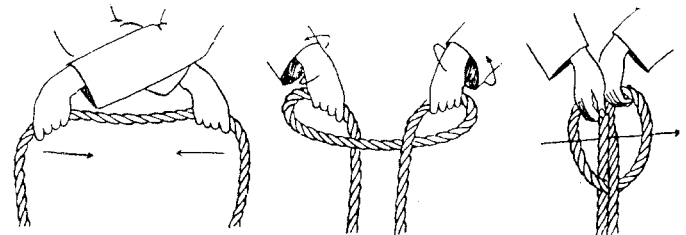

Figure 29. Farmer's clove hitch
3. **CLOVE HITCH - FARMER'S METHOD.** This method of making the clove hitch is the most practicable and the one most commonly used. Crossing the arms, the left in front of the right, grasp the rope as indicated on the left in Figure 29. Without twisting the rope, bring the hands to the position indicated in Figure 29, middle. The hitch is completed by turning both hands to the right, as indicated by the arrows. Both loops may then be held in the right hand.